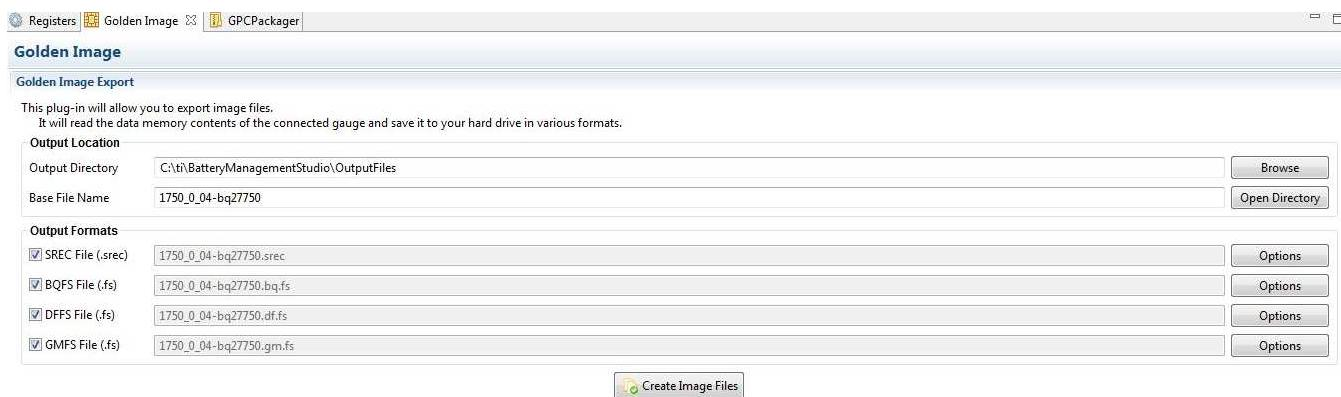

Figure 10. Golden Image Screen
- Clicking the **Create Image Files** button, see Figure 10